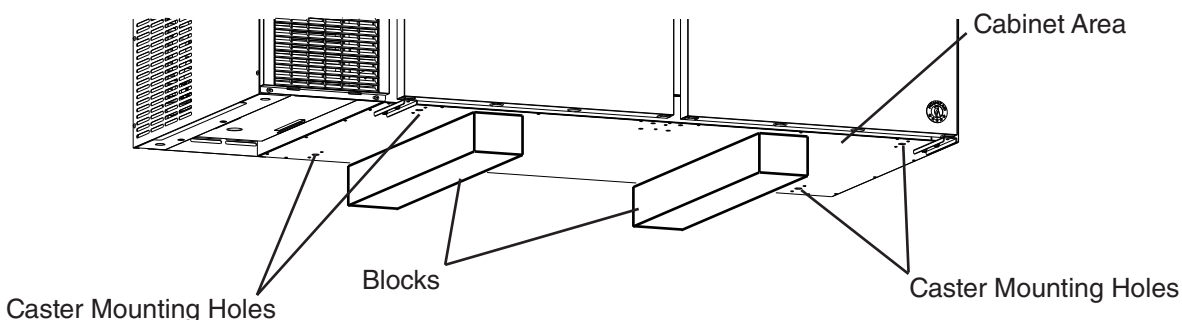

Fig. 2
- 2) Remove the 2 bolts securing the appliance to the pallet, then remove the appliance from the pallet. Block the appliance securely at a height of 8" (20 cm) off the floor. Place the blocks at the inside area next to the caster holes. See Fig. 2.